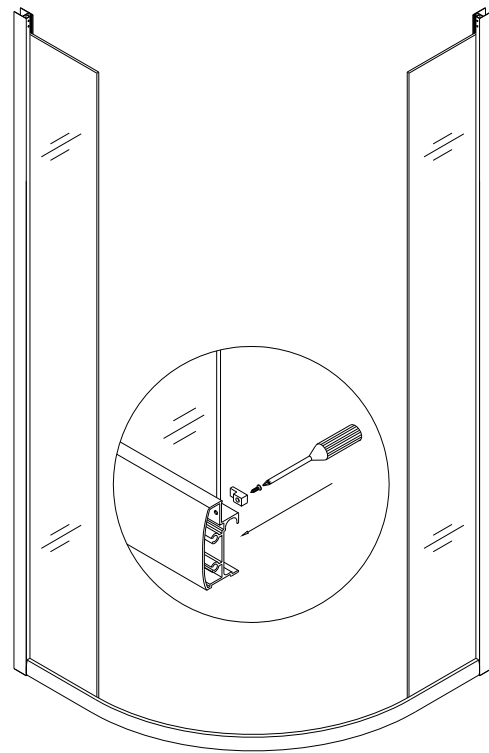
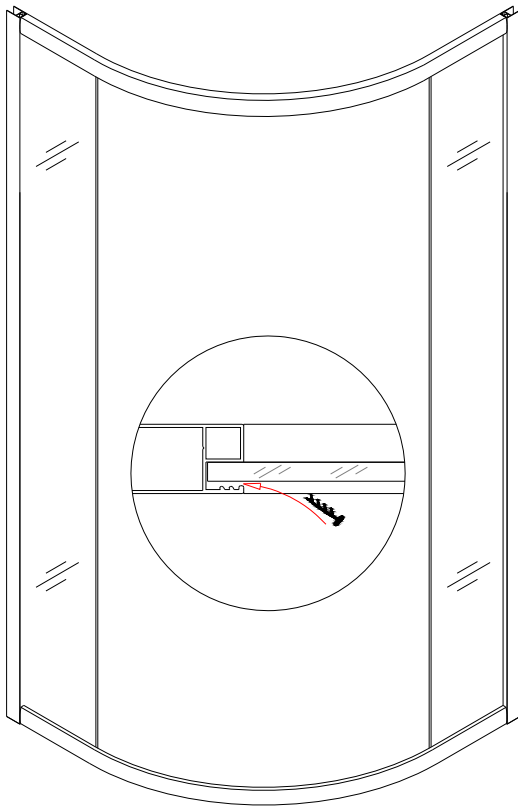

Fig 2
Fig 3
1. Assemble **Glass profile (02)** with **Guide rail (03)** using **Round head screw ST4.2x25 (11)**.
2. Push the **Stationary glass (04)** into Glass profile groove, and then fasten it by **Glass holder (16)** with **Flat head screws ST4.2x16 (13)** to the Guide rail. See Fig 2 for details.
3. Secure another side of Stationary glass inside of the Glass profile groove with **Single side plastic strip (09)**. Push Single side plastic strip between glass and side of groove. See Fig 2 and Fig 3 for details.